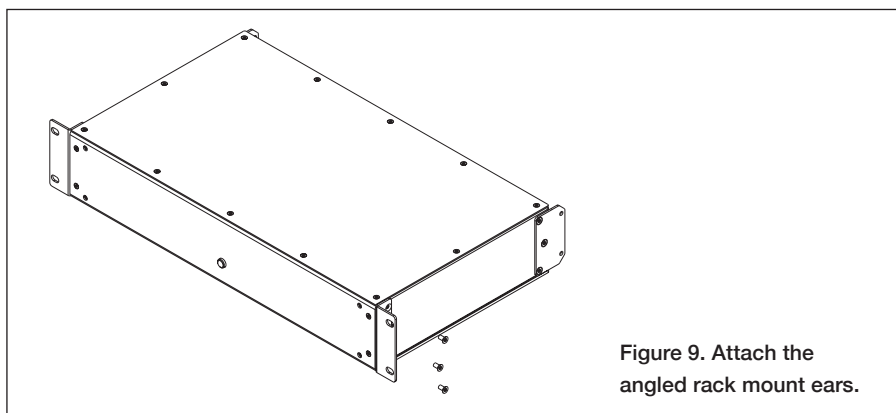

Figure 9. Attach the angled rack mount ears.
- Attach two angled rack mount brackets (included). Attach the front plate (included) (see figures 9 and 10).